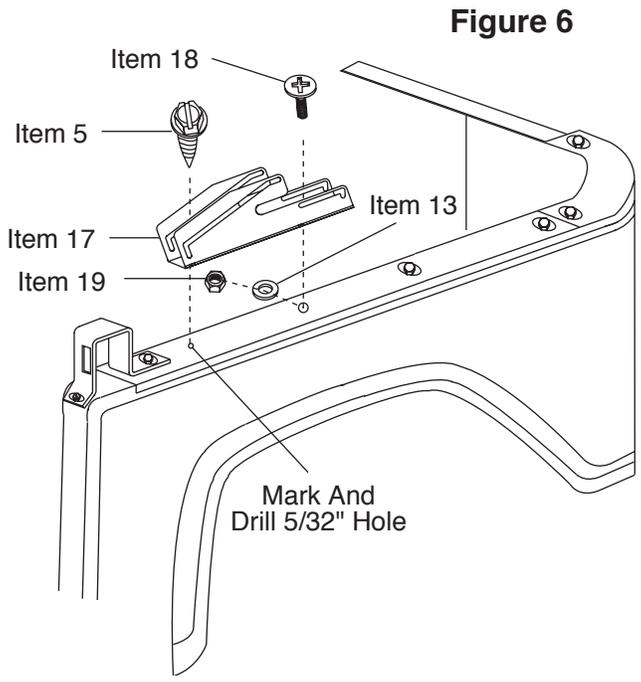

**Figure 5**
**Step 3. Belt Rails, Vertical rod Brackets and Corner Plates:** Note: Some CJ-7's may require drilling for this step. Check under the body edge before drilling any holes as wiring may be present. If you do not need to drill any holes disregard all drilling operations. Measure 74 3/8" from the door opening to find the starting point. Mark and drill a 3/8" hole centered on the body edge. This will be location of the last hole on the belt rail (**Item 7**). There are left and right belt rails. The right belt rail is labeled "R" and the part that goes towards the front is labeled "F". Secure the rail with 5/16 x 3/4" hex bolt (**Item 4**), 5/16" flat washer (**Item 9**) and 5/16-18 rectangular nut (**Item 10**). See figure 5. Tighten bolts only enough to hold
belt rail on. Continue marking and drilling holes using the holes in the belt rail as a template. Secure with the 5/16 x 3/4" hex bolt (**Item 4**) through 5/16" flat washer (**Item 9**) and 5/16-18 rectangular nut (**Item 10**) making sure the belt rail is flush with the inside body edge. See figure 5. Now tighten all bolts making sure belt rail is flush with inside of body edge. Position vertical rod bracket (**Item 11**) on top of belt rail at the door opening over front hole in belt rail. Secure with 5/16" x 3/4" hex bolt (**Item 4**) through 5/16" flat washer (**Item 9**) through vertical rod bracket (**Item 11**) to top of the body and into the 5/16-18 rectangular nut (**Item 10**) and tighten. Figure 5 Using the vertical rod bracket as a template, mark and drill a 1/4" hole centered side to side on door flange of the body near the top of the door opening. See figure 5. Secure front of bracket with 1/4"-20 x 5/8" machine screw (**Item 12**) through vertical rod bracket and into 1/4-20 rectangular nut (**Item 14**). Figure 5. Butt the corner plate (**Item 8**) against the rear of belt rail. Mark and drill two 3/8" holes using the oval holes in corner plate as a template. Secure corner plate to body with items 4, 9 and 10. Repeat for other side. See Figure 5. Note: The vertical and horizontal rod brackets may need to be moved from side to side later in the installation to seal around the door opening properly.